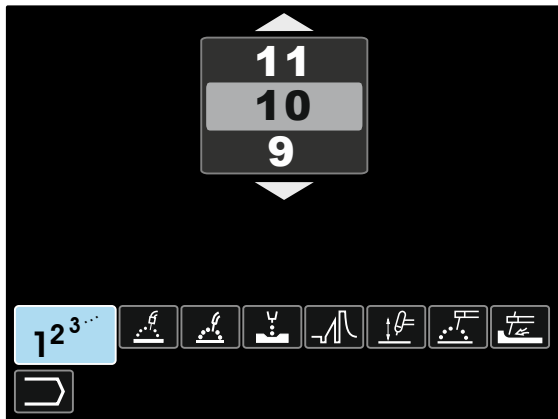

Figure 8
- Use the Set Control [11] to highlight the Welding Program Choice icon – Figure 8.